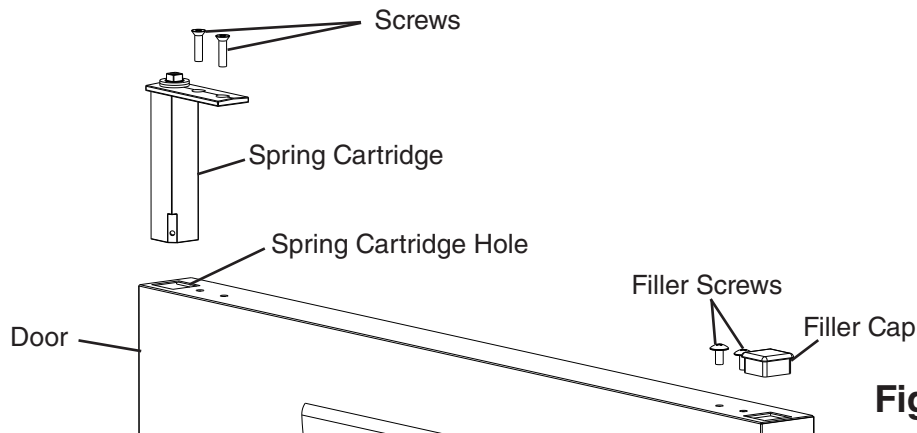

Fig. 11
- 9) Clear foam from the spring cartridge hole to allow for spring cartridge installation. See Fig. 11. Install the spring cartridge in its new location. Reinstall the filler cap and filler screws on the opposite side of the door.